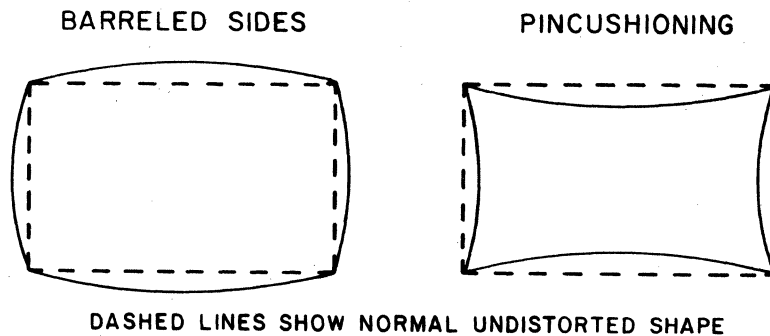

Figure CRT47. Identifying Raster Distortion
- 21) By referring to figure CRT47 and the display, determine whether the perimeter edge requiring correction is caused by a barrel or a pincushion distortion.